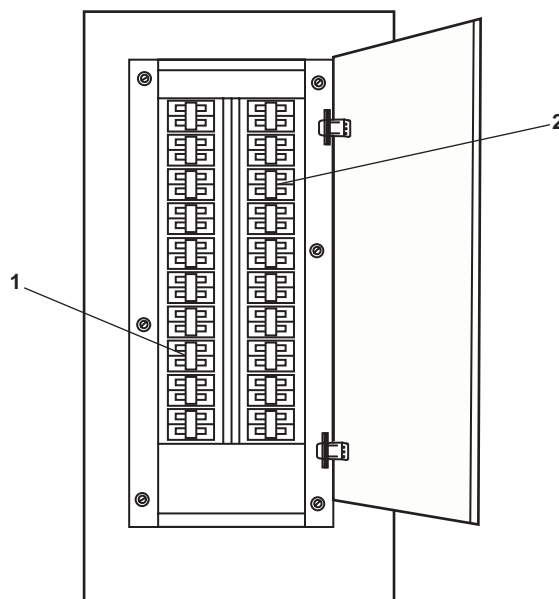

Figure 1. 120V Emergency Distribution Panel No. 1
- d. OPEN Lo-14, LUBO XFER. TO OILY WST. STOR. TK. (figure 1, item 18), located on the starboard engine room bulkhead, aft of SSDG 1.
- c. Lo-14, LUBO XFER. TO OILY WST. STOR. TK. (figure 1, item 18)
- a. RACOR FILTER. (figure 1, item 1).
- b. TLI SYSTEM. (figure 1, item 2).